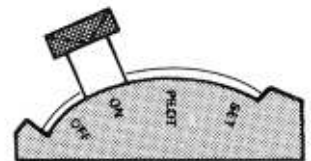

FIGURE 4
5. Move selector arm to the "on" position, (see figure 4), and set room thermostat to desired temperature. Allow burner to cycle on and off.